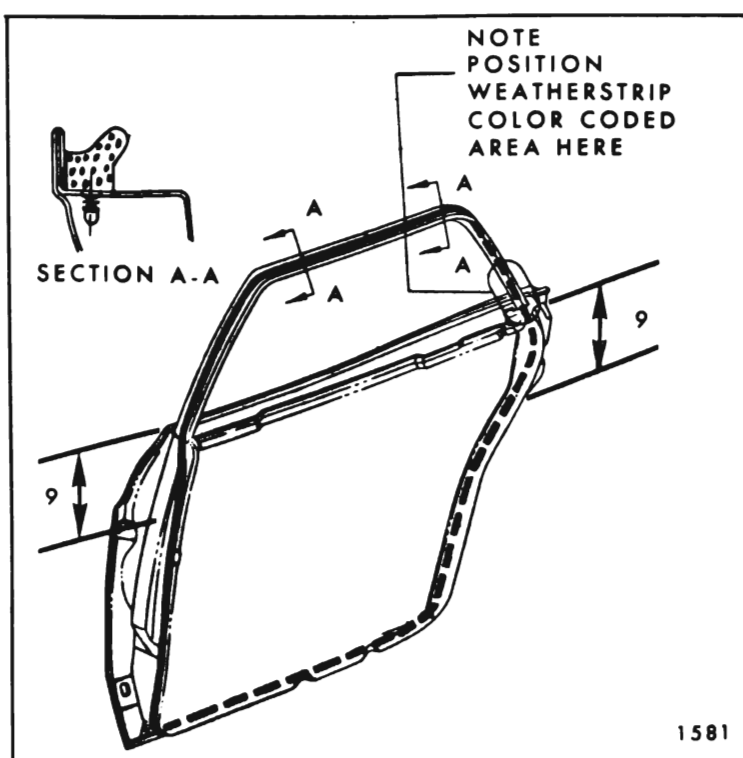

Fig. 7-25—Rear Door Weatherstrip
- b. On rear doors, color coded section should begin at beltline of door lock pillar and extend upward (Fig. 7-25).
- b. On sedan rear doors, 9" down both door lock pillar and door hinge pillars starting at beltline (Fig. 7-25).